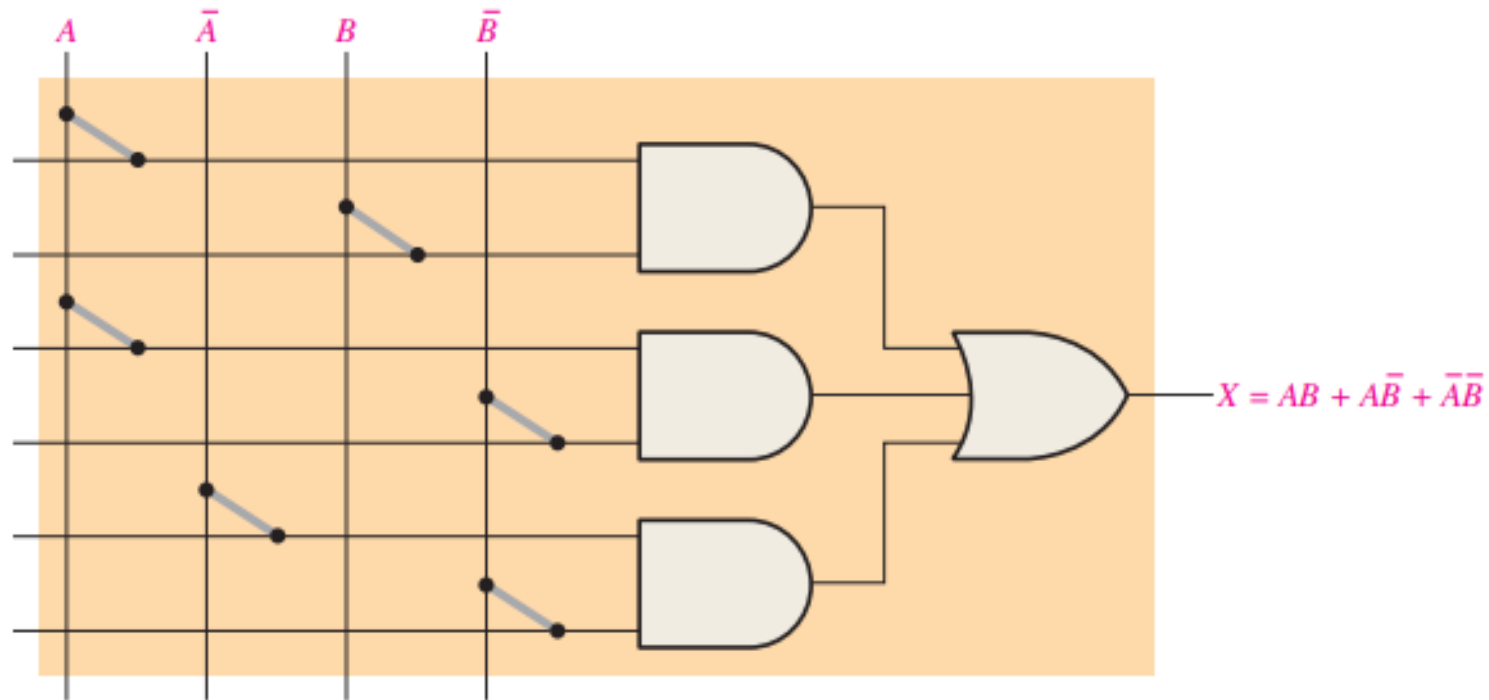

FIGURE 10–2 PAL implementation of a sum-of-products expression.
- An example of a simple PAL is programmed as shown in Figure 10–2 so that the product term $A\bar{B}$ is produced by the top AND gate, AB is produced by the middle AND gate, and $\bar{A}\bar{B}$ is produced by the bottom AND gate